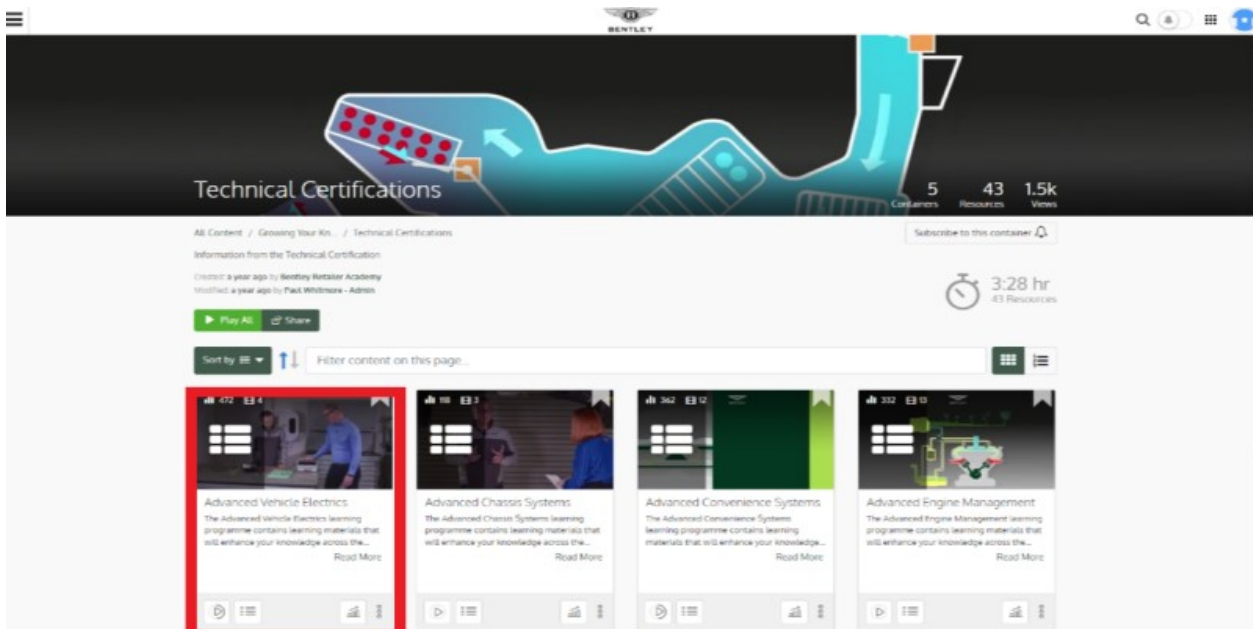

Figure 5
- Select - Advanced Vehicle Electrics (Figure 5)